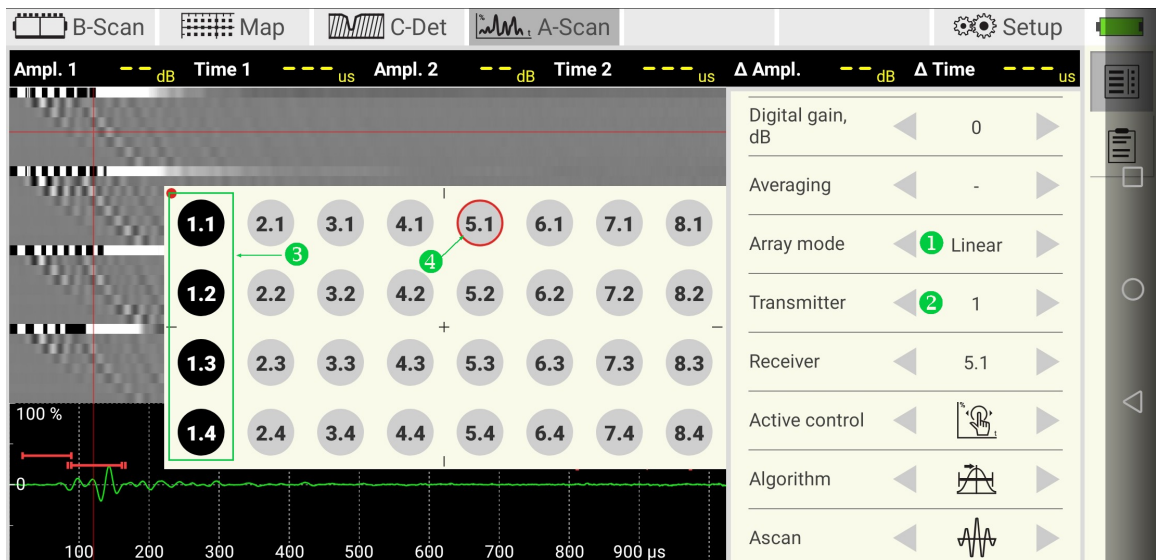

Figure 10: Selecting the group of transmitters
In the `linear` array mode ❶, the operator can select a group of four transmitting transducers. Tap on the `transmitter` control ❷. Select the group (or column) of transmitters in the rising dialog. Transmitters become black ❸. The receiver ❹ has a red border (Figure 10).